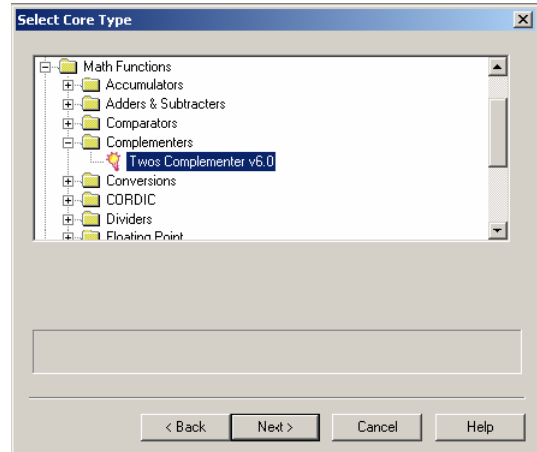

Figure 3: Select Core Type
2. Expand **Math Functions, Complementers**. Click **Twos Complementer**. Click **Next**. Click **Finish**. Refer to figure 3.